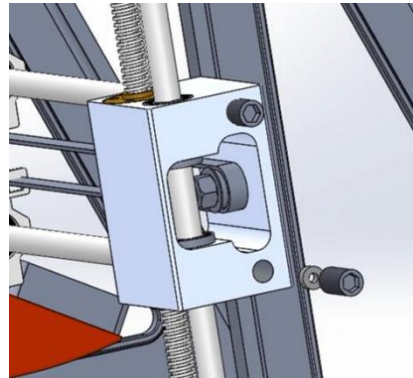

Fig.b40
- C. Together with M8*15 set screw there are two ABS spacers too. Insert into two hole on right side of right link block, and drive M8*15 set screws to tighten rods. (Fig.b40)